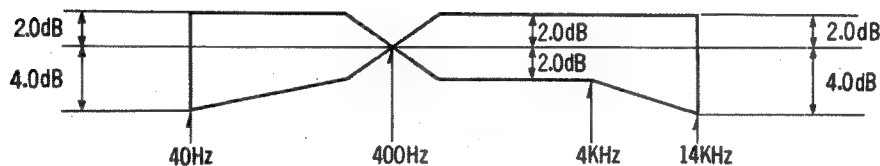
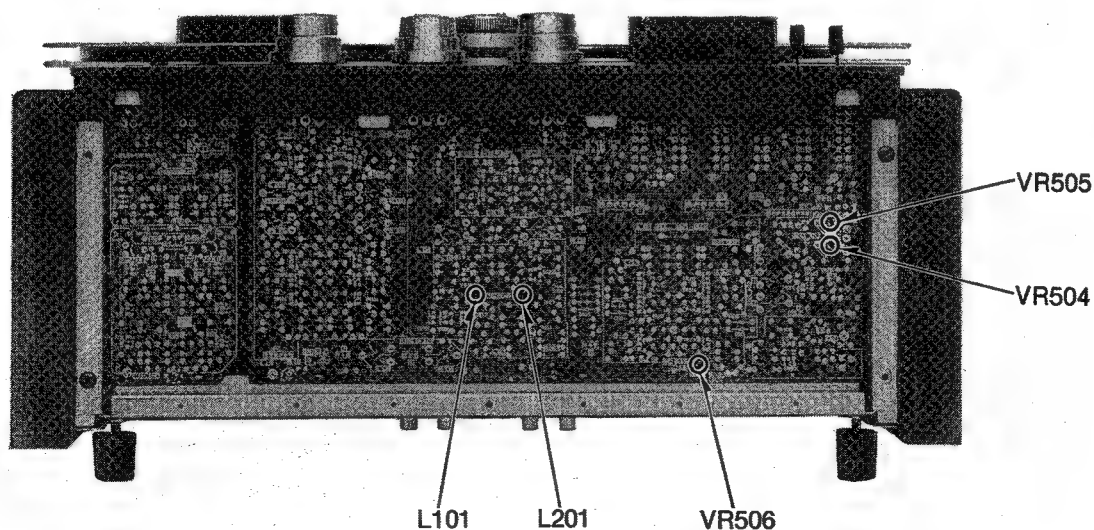

Fig. 46
Fig. 47
6. Next vary the input signal frequency between 24 kHz and 5 kHz, and confirm that the frequency response is within the range shown in fig. 46.
<p>9. If it is not within 0— – 1 dB, adjust VR505 and VR504 for within this range.</p> <p>10. Once again change the tape speed to 19cm/s, and input signal frequency to 24kHz, and confirm that playback output is as described in step 4 above.</p> <p>11. If it is not, adjust peaking coils L101 (for L-CH) and L201 (for R-CH) shown in figure 47.</p> <p>After the above measurements and adjustments, measure the overall frequency response at 19cm/s and 38cm/s tape speeds, and confirm that it is within the range shown in fig. 46.</p> <p>Characteristics at 9.5 cm/s tape speed</p> <p>After adjustments described above are complete for 38cm/s and 19cm/s, confirm frequency response at 9.5 cm/s.</p> <p>1. Record an input signal of 14kHz, – 44 dB at 9.5 cm/s tape speed, and measure the playback output.</p> <p>2. If the measured value is not within the range shown in fig. 46, adjust VR506 so that it is within this range.</p>